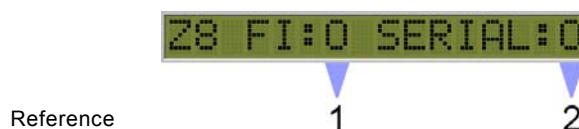

Figure 10.6: Screen Z8 - Fibre and Serial Input Status
If the fibre optic input port is being used as a speed or torque reference then check that an X is displayed on screen Z8 (refer Figure 10.6, reference 1). A Closed (X) status indicates that a valid fibre optic data packet has been received since the last screen update. An Open (O) status indicates that no valid data packet has been received since the last screen update. An X (closed) should be displayed at all times when the fibre optic input is receiving valid data.
If the serial port is being used check that an X is being displayed on screen Z8 (refer Figure 10.6, reference 2). A Closed (X) status indicates that a valid serial data packet has been received since the last screen update. An Open (O) status indicates that no valid data packet has been received since the last screen update.